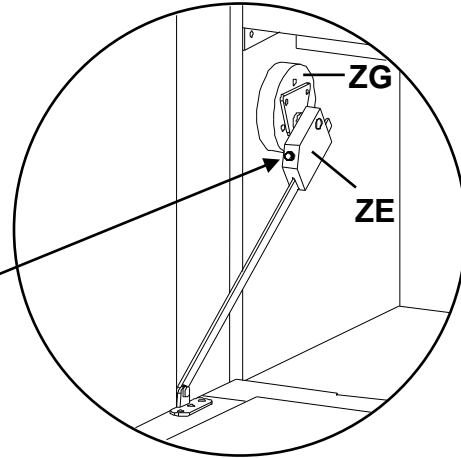

Fig. 14
14. Open the Door (R). To adjust the brake tension on the Door Stay (ZE) turn the screw on the Door Stay Support (ZG) clockwise to loosen or counterclockwise to tighten. See Figures 14 and 14a.